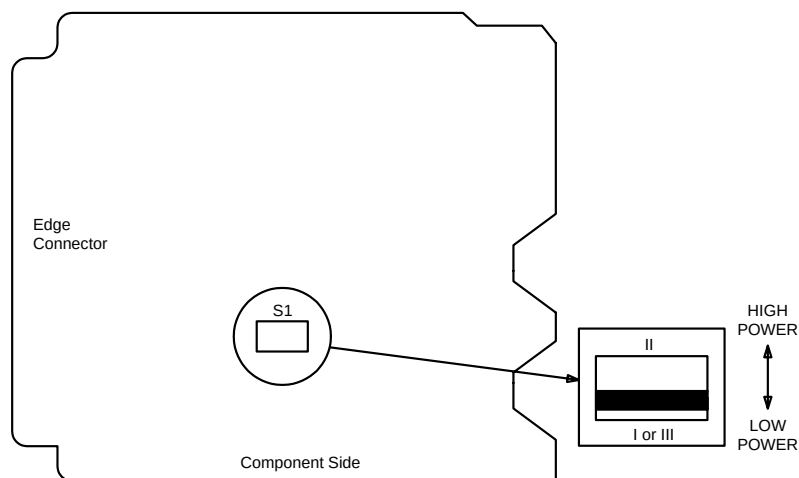

Figure 3. 21G/21G-U OLIU Option Switch
21. Refer to Table I and Figure 3 and set the **HIGH/LOW POWER** option switch on replacement **21G/21G-U OLI**U to proper setting.